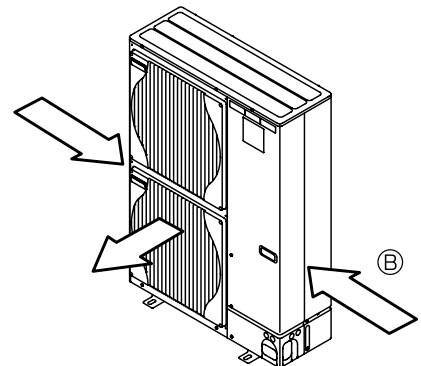

Fig. 2-3
- Position the unit so that the air outlet blows perpendicularly to the seasonal wind direction, if possible. (Fig. 2-3)